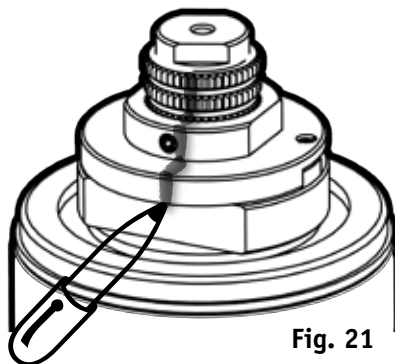

Fig. 21
5) Ensure that the position of the **HANDLE STOPPER 12** is clearly marked in relation to the **CARTRIDGE SPINDLE 16** (**Fig. 21**) using appropriate marker pen